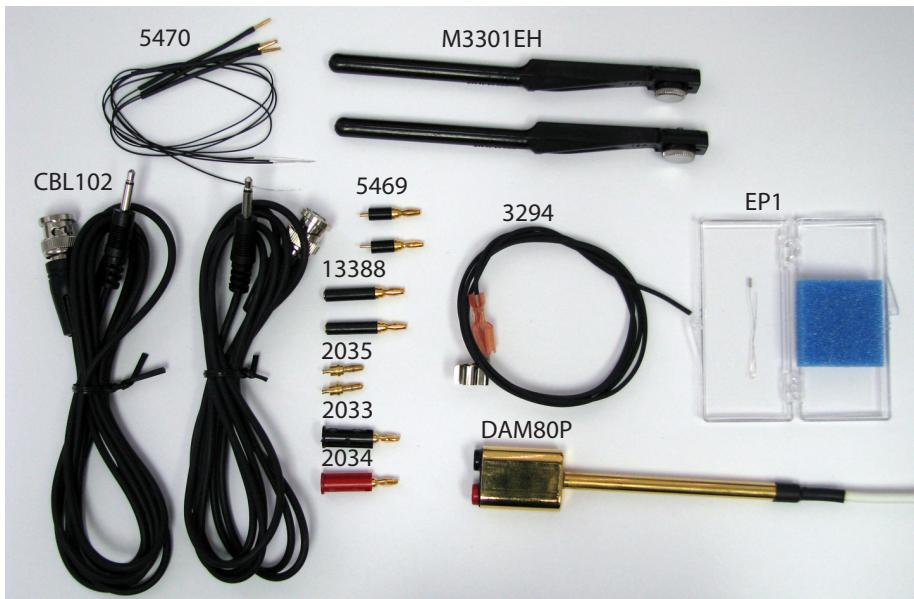

Fig. 2—DAM80 Startup Kit
- Startup Kit (Pictured in Fig. 2) includes:
- (1) pkg. of four 0.031" to wire Electrode adapters (#**5470**)
- (2) 6-foot, BNC to 3.5mm plug cables (#**CBL102**)